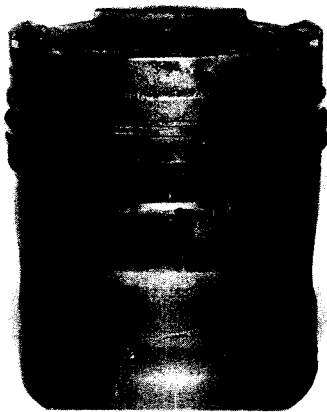

Fig. 5. Worn rings on piston
**Suggestion:** Gradual increase in oil consumption is usually the result of wear. Sudden increase may be due to a scored liner, or other casualty. Fig. 5.